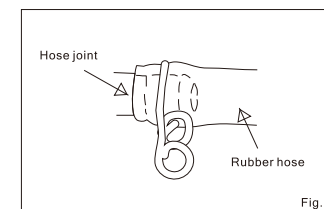

Fig. 13
7. Push the rubber hose onto the hose joint as far as it will go. Do not use a vinyl plastic hose, as this can be dangerous. Secure the hose with both sides of hose clamp.(Fig.13) see to it that the rubber hose does not touch a part of the gas cooker nor lies underneath it.